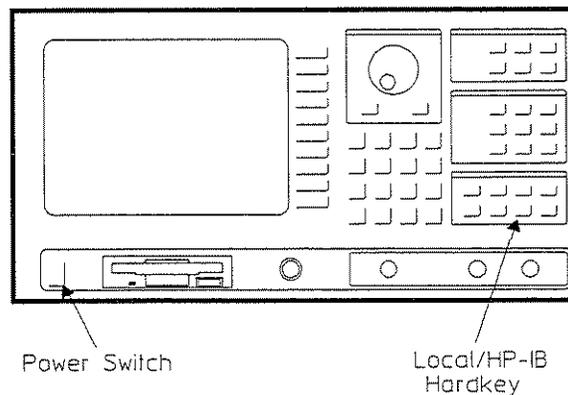

Figure 1-2. HP 35665A Front Panel
3. Turn on the HP 35665A. When the softkey labels appear, press the [**Local/HP-IB**] hardkey. See figure 1-2.